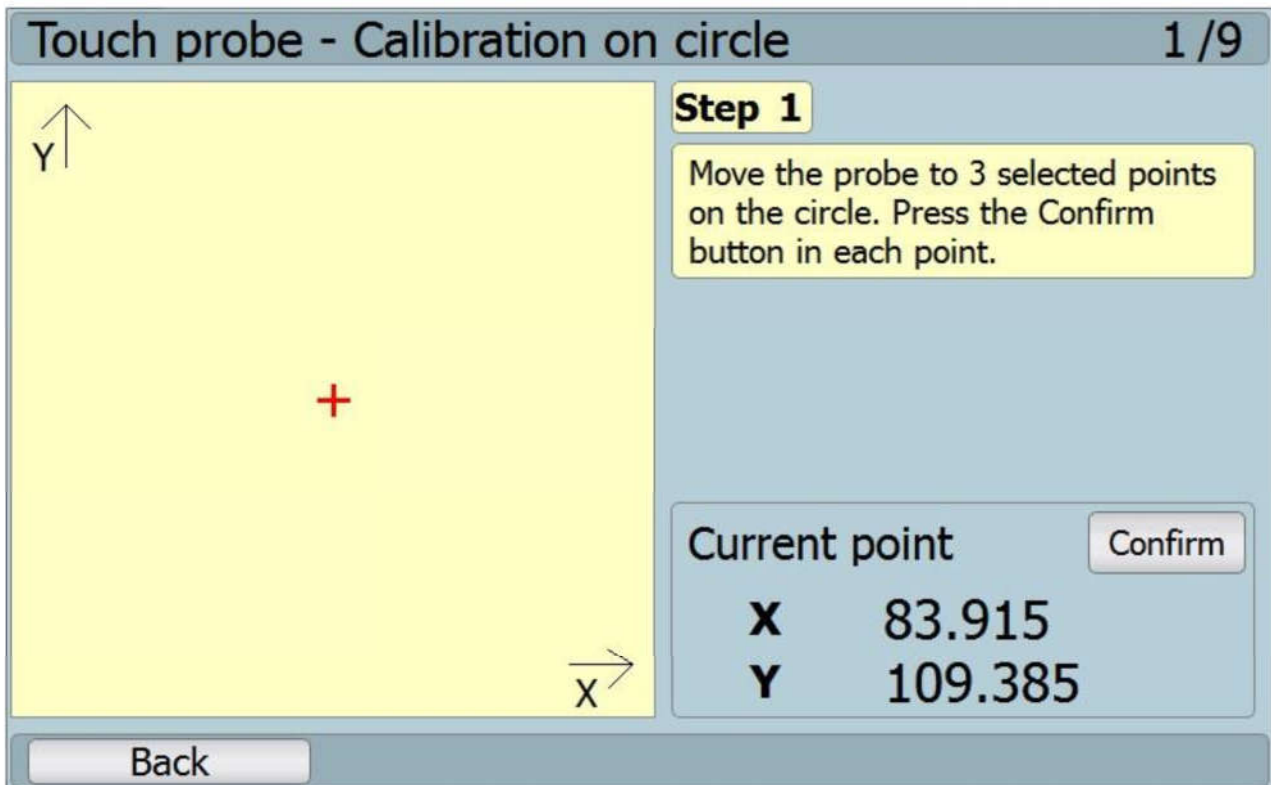
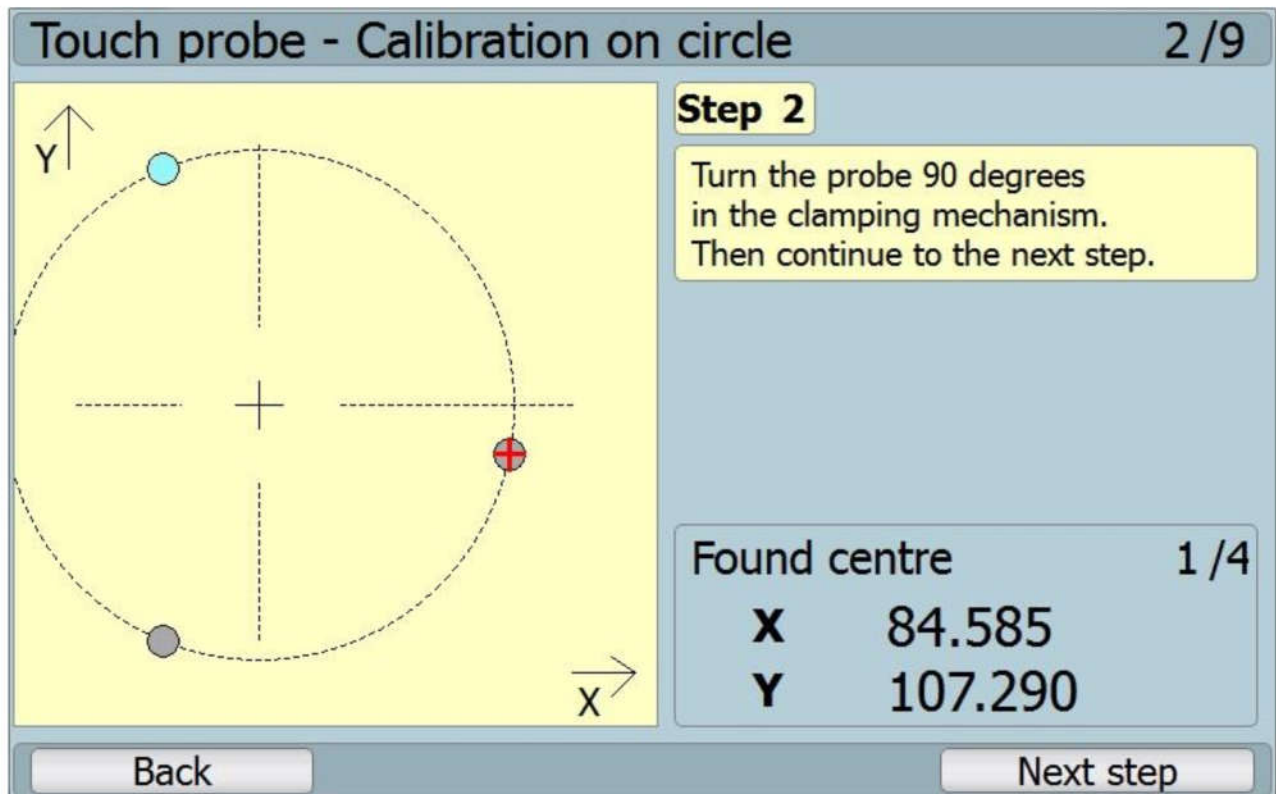

Fig. 41: Touch probe – calibration on the circle – step 1
Fig. 42: Touch probe – calibration on the circle – step 2
⑩ The calibration on the circle is used for finding values for the deviation compensation of the touch probe in selected axes (according to the set plane).
⑩ Correct calibration must be completed in nine simple steps with some steps repeated.
⑩ The actually performed step is in the top right (see fig. 41: Touch probe – calibration on the circle – step 1). It is the first step from nine.
⑩ Individual steps are defined by a simple guide in the form of text on yellow base on the right.
⑩ Calibration procedure:
2. after entering three points on the circle circumference the found circle is automatically drawn with the centre. Now it is necessary to physically turn the touch probe by 90° in the clamping mechanism. when the probe turns, press button „**Dalsi krok**“ (next step) (see fig. 42: Touch probe – calibration on the circle – step 2).